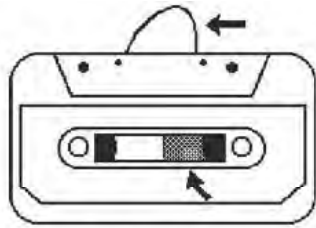

Fig. 1
- Check that there are no loose layers or extra slack of tape visible through the cassette center window (see Fig. 1). Take up any loose layers or extra slack by using a pencil or hexagonal barreled ballpoint pen before inserting the cassette into the machine (see Fig.2).